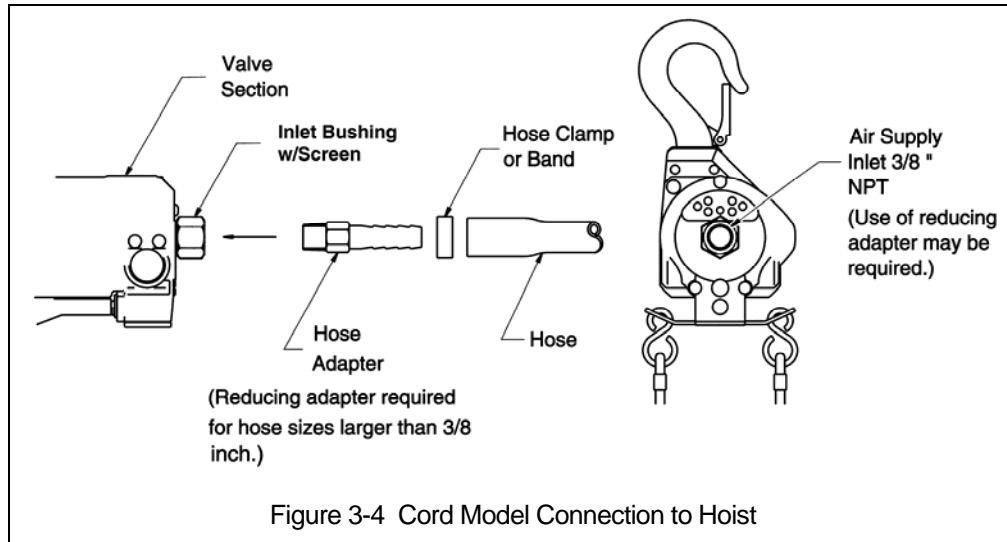

Figure 3-4 Cord Model Connection to Hoist
3.8.5 Make connections to air supply; reference Figure 3-4 or 3-5. Use a reducing adapter at the hoist valve section for hose sizes larger than 3/8 inch.